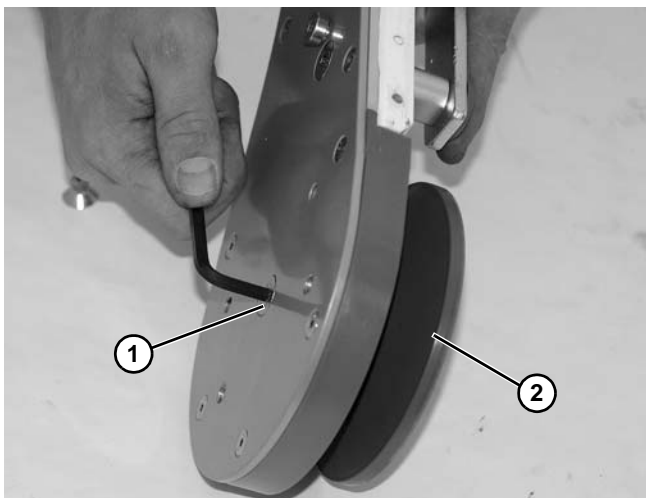

Figure 124
4. Remove flat head screw (Figure 124, item 1) and remove idler pulley (Figure 124, item 2) from idler head plate assembly.